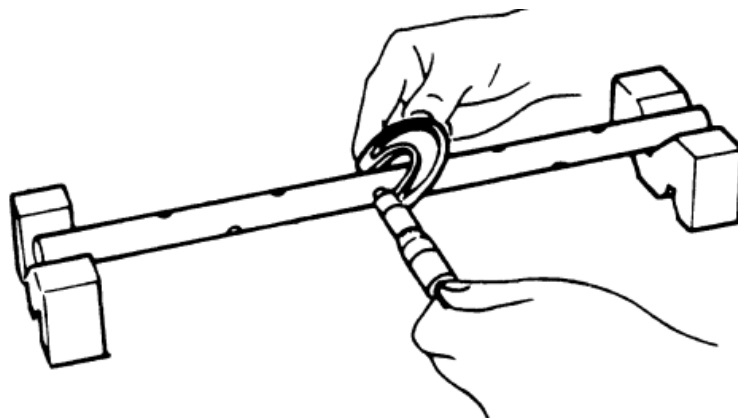

Fig.36
- Measure the outside diameter "d" of the rocker shaft at the bearing area of the rocker arm with an outside micrometer. Fig.36